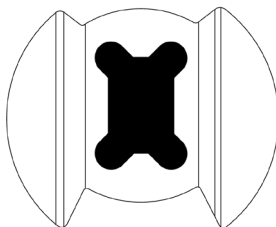

Figure 45 Adapter top view
3. Insert the sensor needle into the top of the adapter (Figure 45).